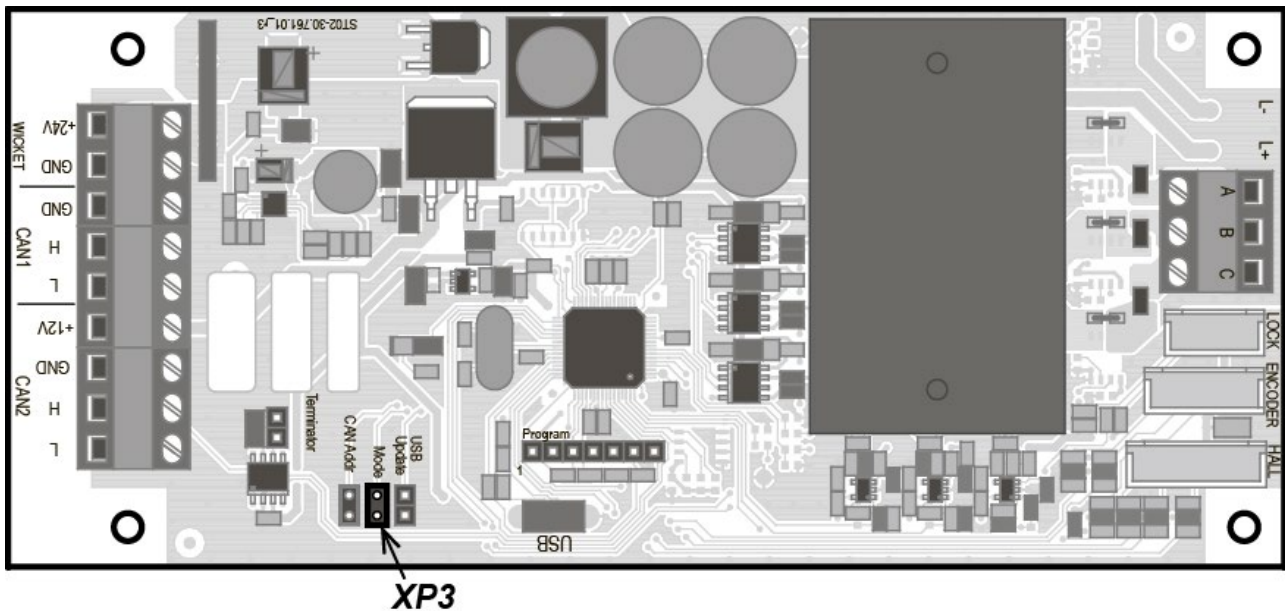

Figure 30. Motor drive board
- Install the jumper on the **XP3 "Mode"** connector of the motor drive board for this sliding panel (see Fig. 30).